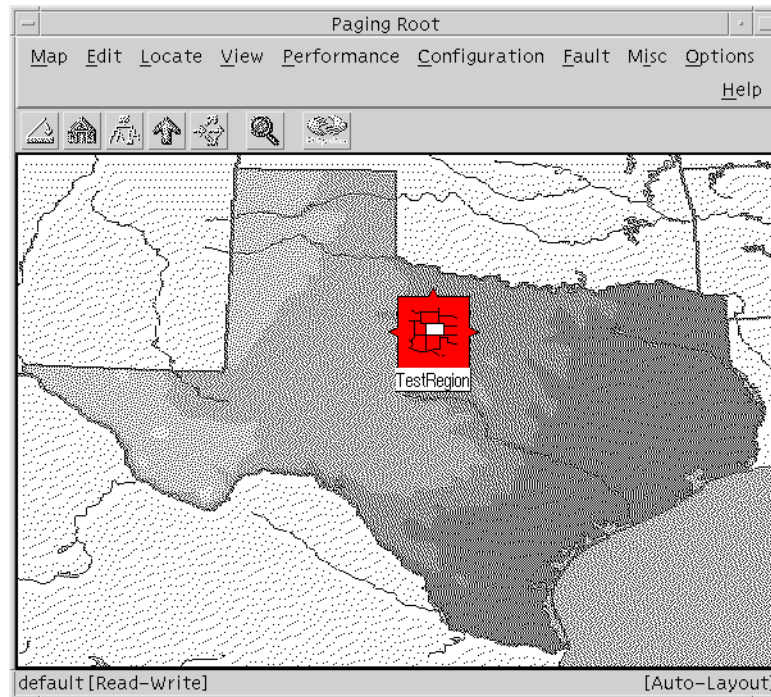

Figure 4-7: Example of a Paging Root Window
4. Label the region symbol with its selection name and select the **OK** button (see Figure 4-7).